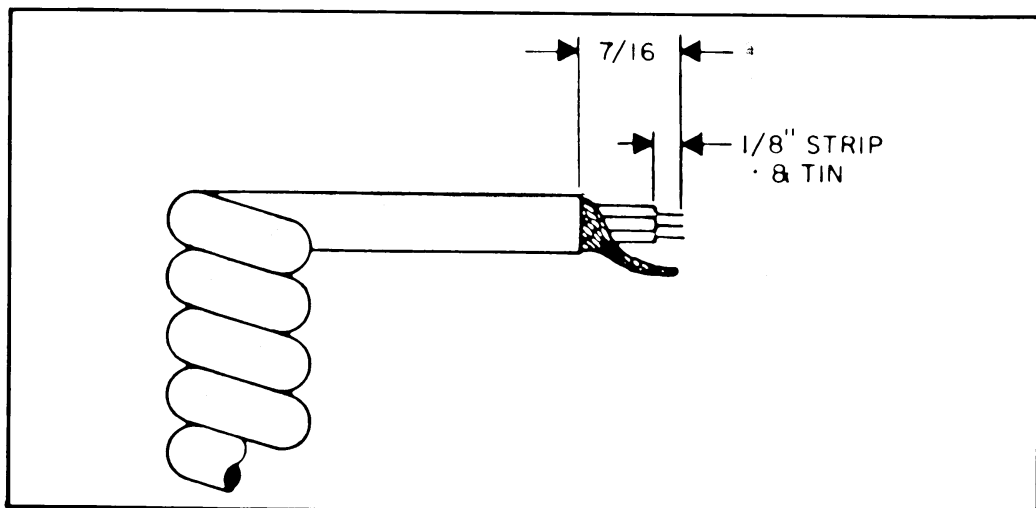

Fig. 1. Microphone cable preparation.
1. The leads should be cut so that they extend  $7/16''$  beyond the plastic insulating jacket of the microphone cable. See Fig. 1 below.